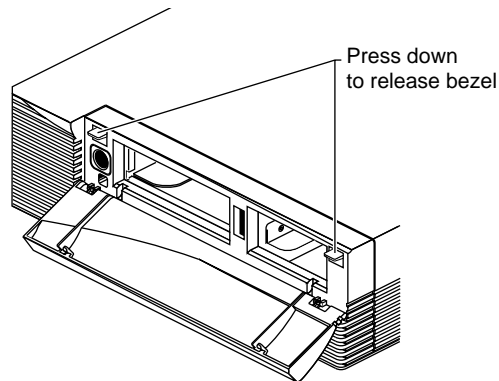

Figure 2-3 Bezel on the Indigo² IMPACT Chassis
- Press down on the tabs on each side of the bezel (Figure 2-3).